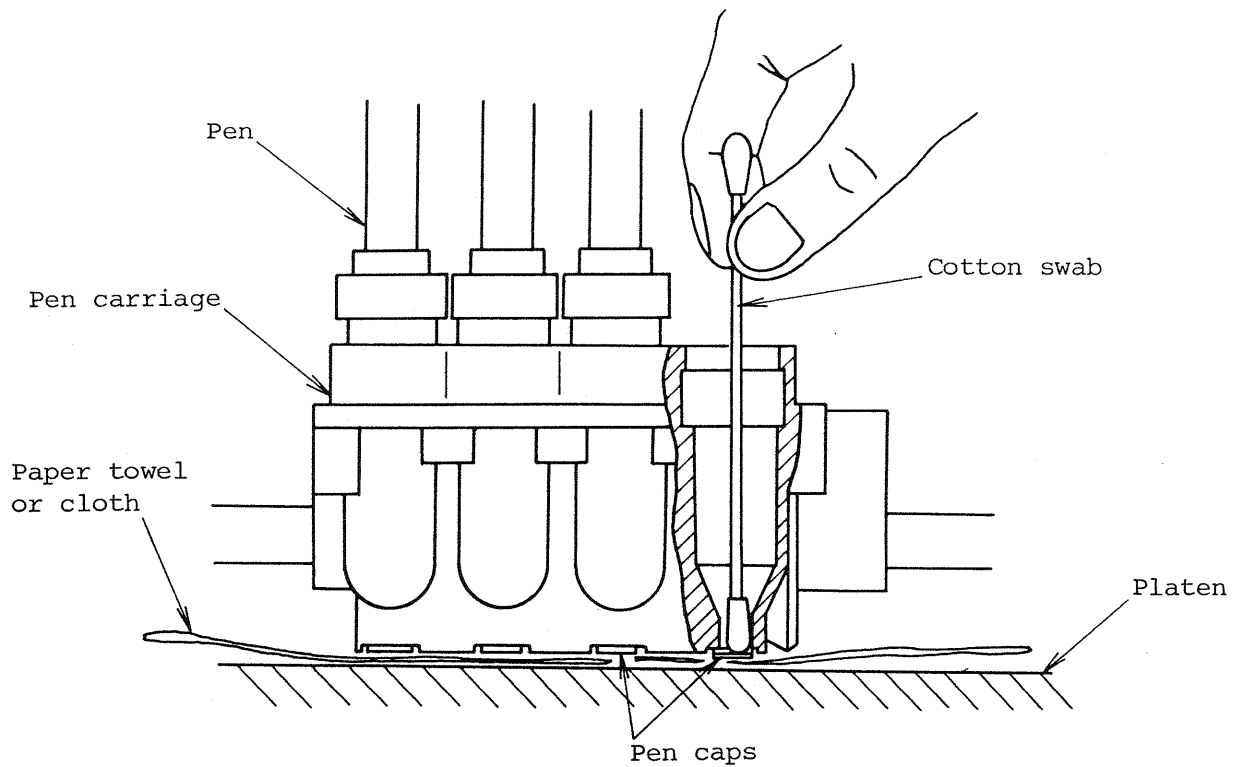

Fig. 4-2 Cleaning of Pen Caps
- (6) If inside of pen carriage becomes dirty with ink, wipe it with wet cotton swabs. In case of bottom of pen caps, insert and move wet paper towel or cloth between carriage and platen. (Refer to Fig. 4-2.) It is more effective to use cleaning solution (for instance, STAEDTLER's 746 type).